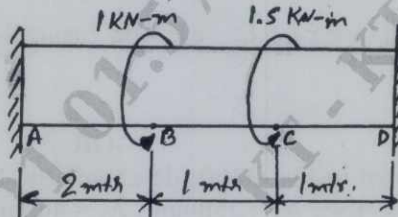

Fig Q6(b)
b. A Bar of circular cross section having a diameter of 50mm is fixed at both ends and subjected to a torque at B and C as shown in Fig Q6(b). Determine maximum angle of twist and shear stresses. Take $G = 7 \times 10^4 \text{ N/mm}^2$, $E = 2 \times 10^5 \text{ N/mm}^2$.